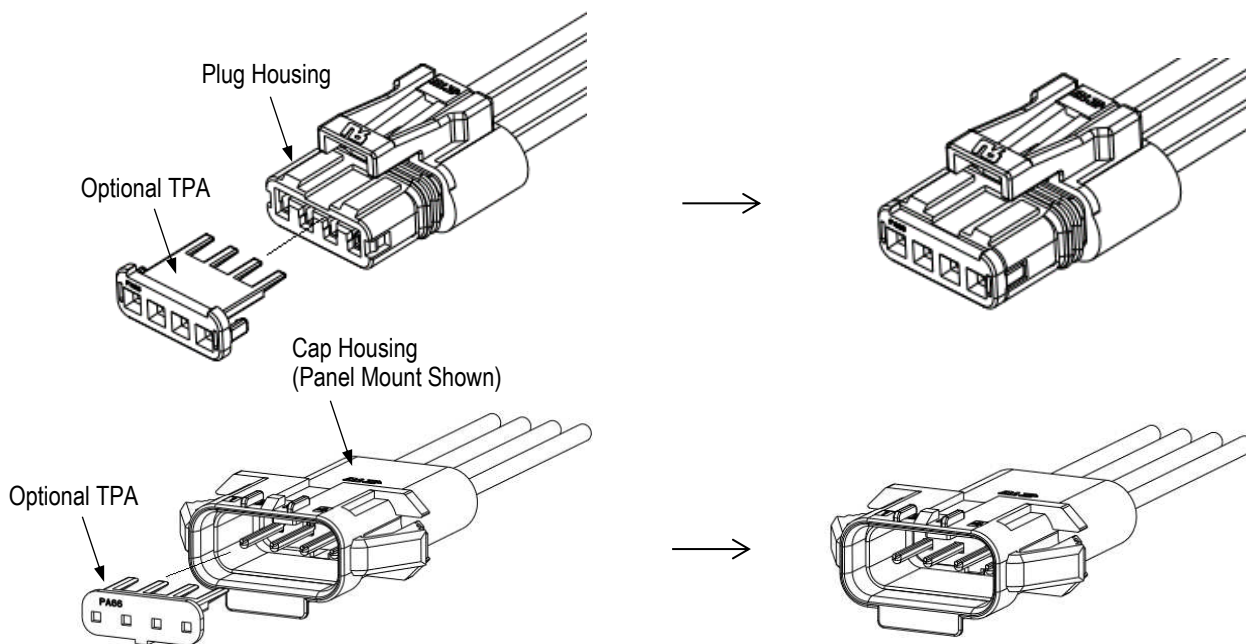

Figure 5
1. Grasp the TPA and push TPA straight into the plug and cap housing from FRONT (there should be a slight audible click). Refer to Figure 5.